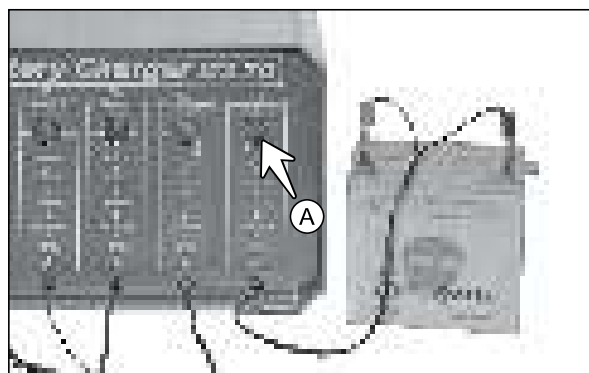

Fig. 5.96
- Turn the selector knob (A) of the charger to the 0.9 amps position incase of multiple battery charger. (Fig. 5.96)